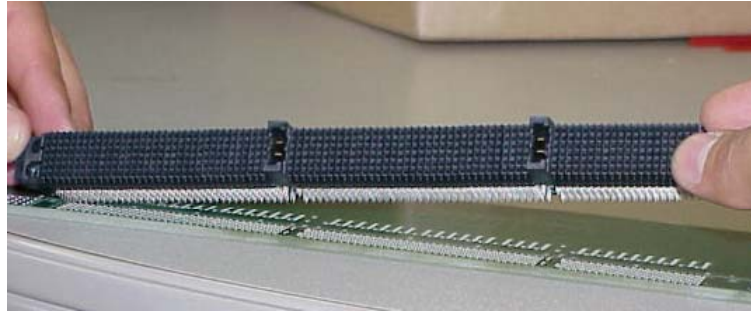
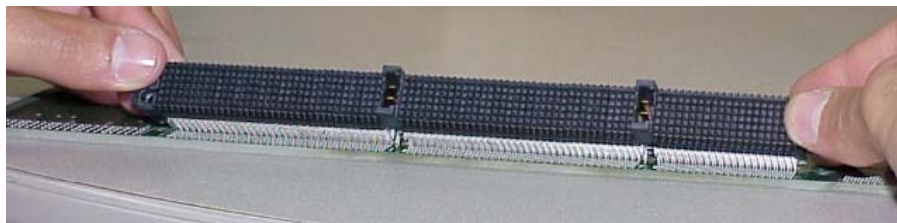

Figure 3
Figure 4
- 3.5 When placing the connector on the daughtercard, orient the board and pallet so the connector, when placed, will have the window side facing you and the stiffener side facing away from you. Before placing the connector, it must be inspected for any bent pins to insure proper placement. Refer to TB-2077 for general inspection guidelines. Hold the connector with one hand at each end and take one end of the connector and insert the far corner pins into their respective holes (Figure 3). Then while holding the window side of the connector up off of the board roll the back row of pins into their respective holes (Figure 4). After checking that this row of pins was properly placed into the board, the connector can be rolled forward to place the rest of the pins (Figure 6). Another technique which can be used is once the far corner pins are in place, roll the connector forward so the column of pins are in their respective holes and then roll the connector down length wise until all of the pins are placed (Figures 5 and 6).